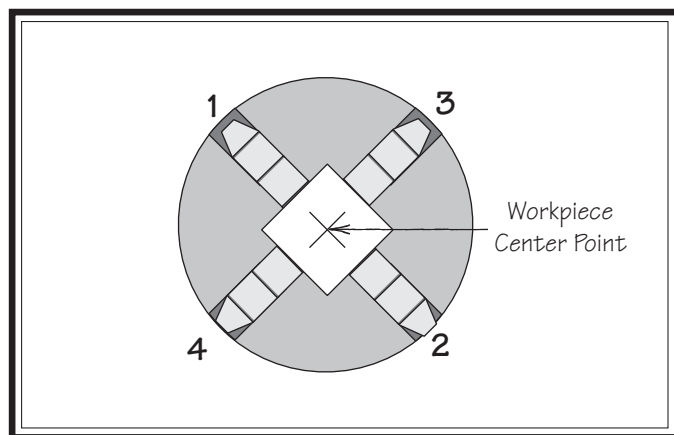

Figure 36. 4-jaw tightening sequence.
5. Tighten each jaw in small increments. After you have adjusted the first jaw, continue tightening the remaining jaws in an opposing sequence, as shown by the sequential order in **Figure 36**.